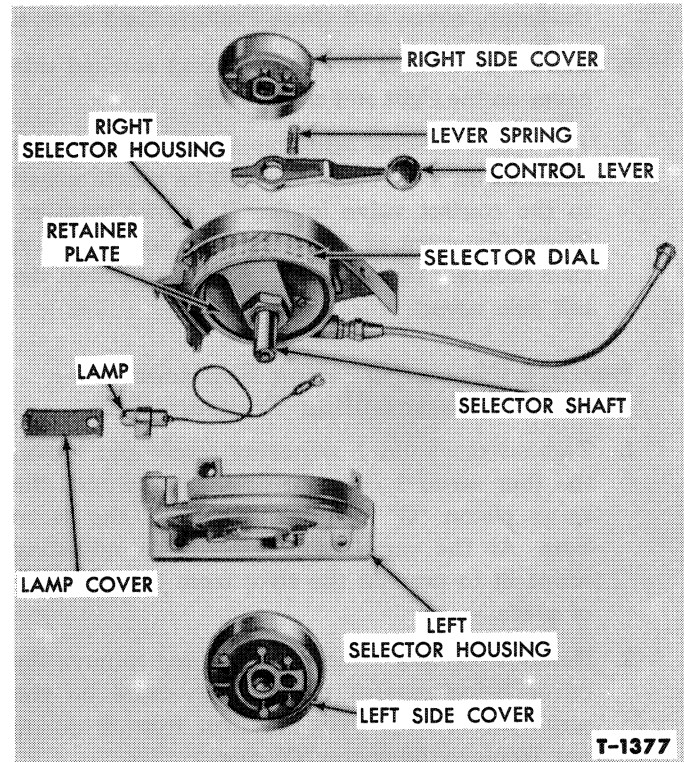

Figure 122—Selector Assembly Components
1. Remove the two side covers and three Phillips head screws to separate the selector assembly, as shown in Figure 122.